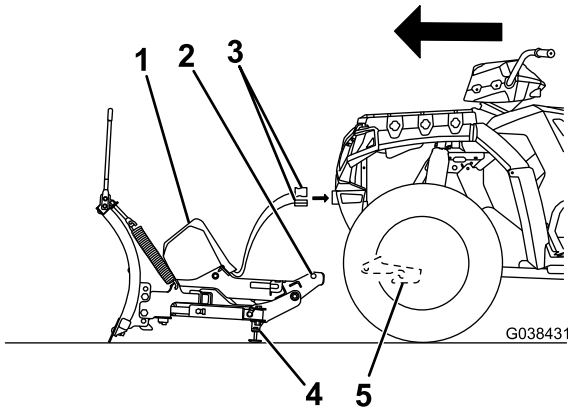

Figure 17
2. Line up the vehicle with the snowplow and drive forward until the lower pin contacts the push-beam pin receiver (Figure 17).
5. Remove the electrical-plug dust-covers and connect the plow wire harness to the vehicle wire harness (Figure 17).